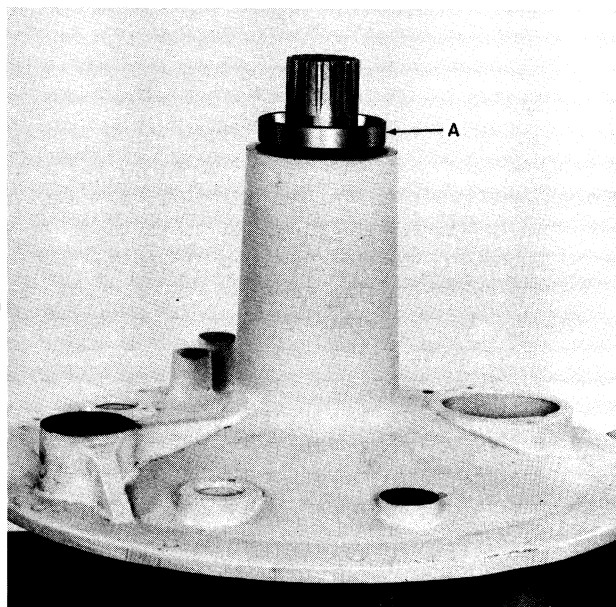

FIGURE 5A-21
2. Install the shaft into the bell housing and place the bell housing with the shaft in a press as shown in Figure 5A-20. Be sure to support the PTO shaft hub and not just the flex plate, as damage to the flex plate will occur. Also, be certain not to support the shaft on the PTO pilot.